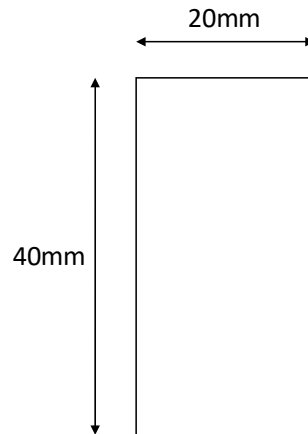

Figure Q5
5. An unrestrained rectangular section aluminium beam with the cross-sectional dimensions shown in Figure Q5, has a temperature profile given by: